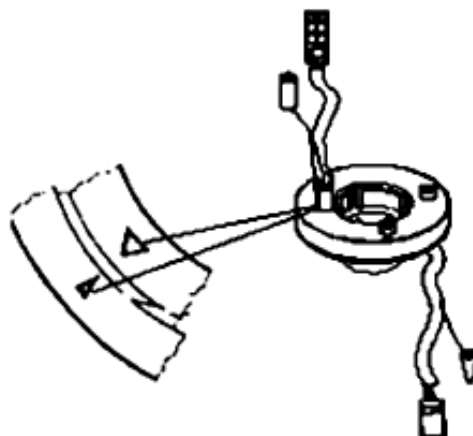

Figure 8.3
a. Driver's side airbag module test (Figure8-3)